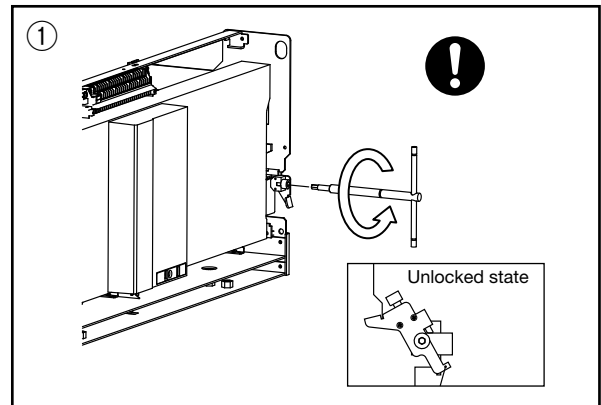

Fig. 14-1
- For AE4000-SW ~ AE6300-SW, unfasten the two fixing bolts on both sides of the cradle, and unlock. If drawout is performed without unlocking, the cradle and the drawout mechanism may be damaged. (Fig. 14-1)